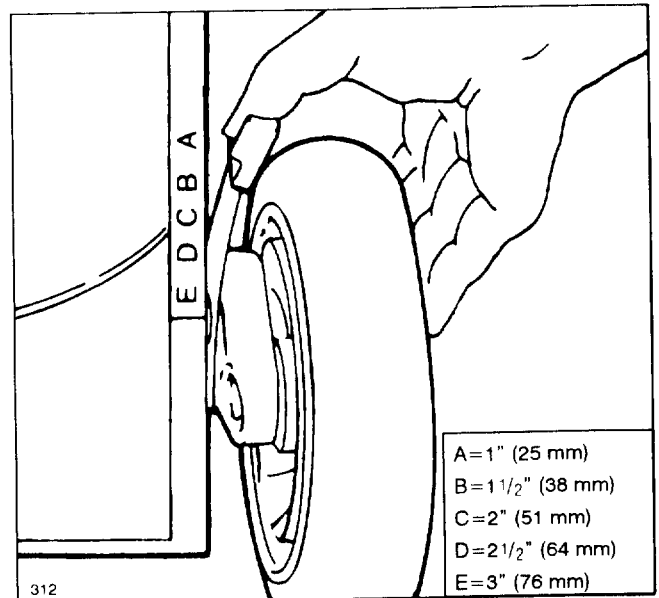

Figure 12
Five letters cast into the housing represent the height—of—cut settings (Fig. 12).
2. For easier adjustment, lift housing up so wheel is off ground. **Do not put fingers under housing when lifting.** Squeeze adjusting lever toward wheel and move to desired setting (Fig. 12). Assure pin on adjusting lever engages notch in housing. Adjust all wheels to the same setting.